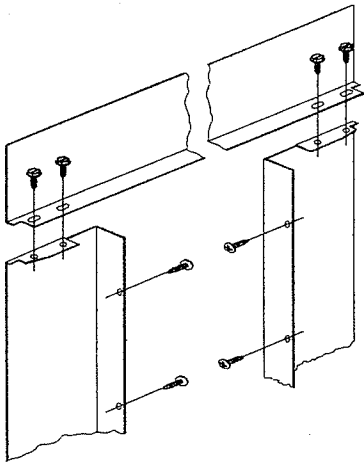

Figure 17a
8. Secure the faceplate with the four Philips screws (see Figure 17a).